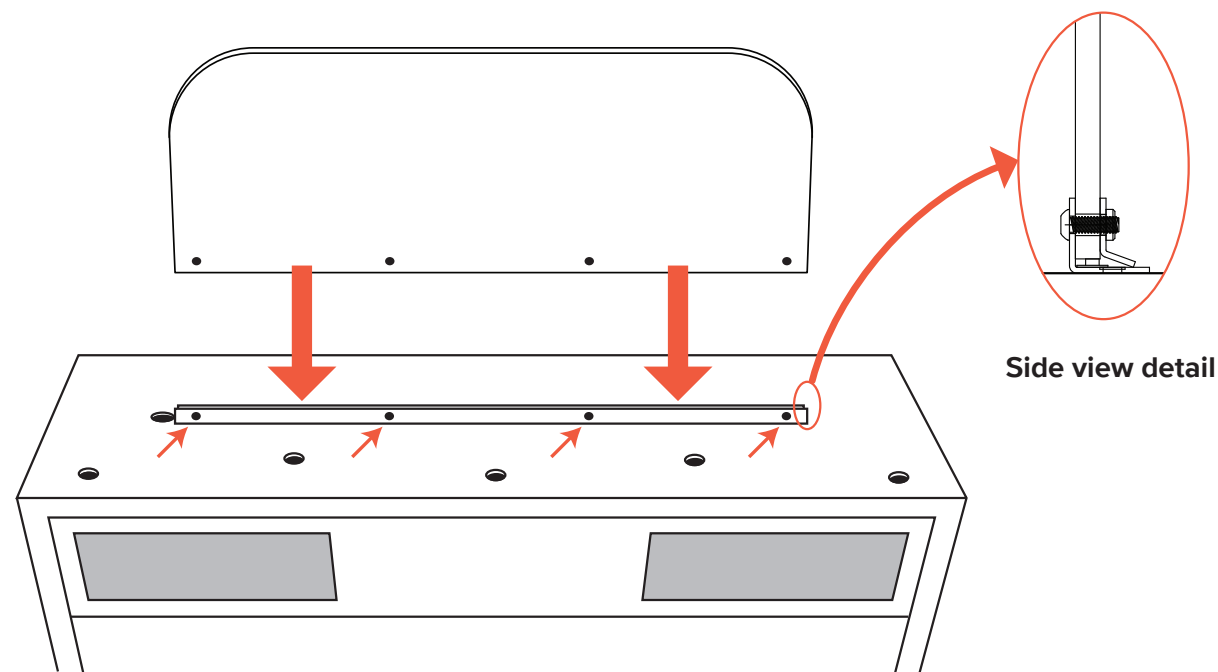

Figure 9. Installing the backbox topper plastic.
9) Locate the lasered topper plastic in the loose parts. Peel the protective covering off of the plastic’s surfaces. Using a #2 Phillips screwdriver, remove the four screws and back half of the topper bracket (the long, “L”-shaped piece), mounted to top of the backbox (see figure 9). Place the topper plastic between the two halves of the bracket, align all of the holes, and fasten all three pieces together with the four screws (as shown in figure 9, inset). When finished, the laser-etched side of the plastic should face the rear of the backbox; the smooth side should face forward.